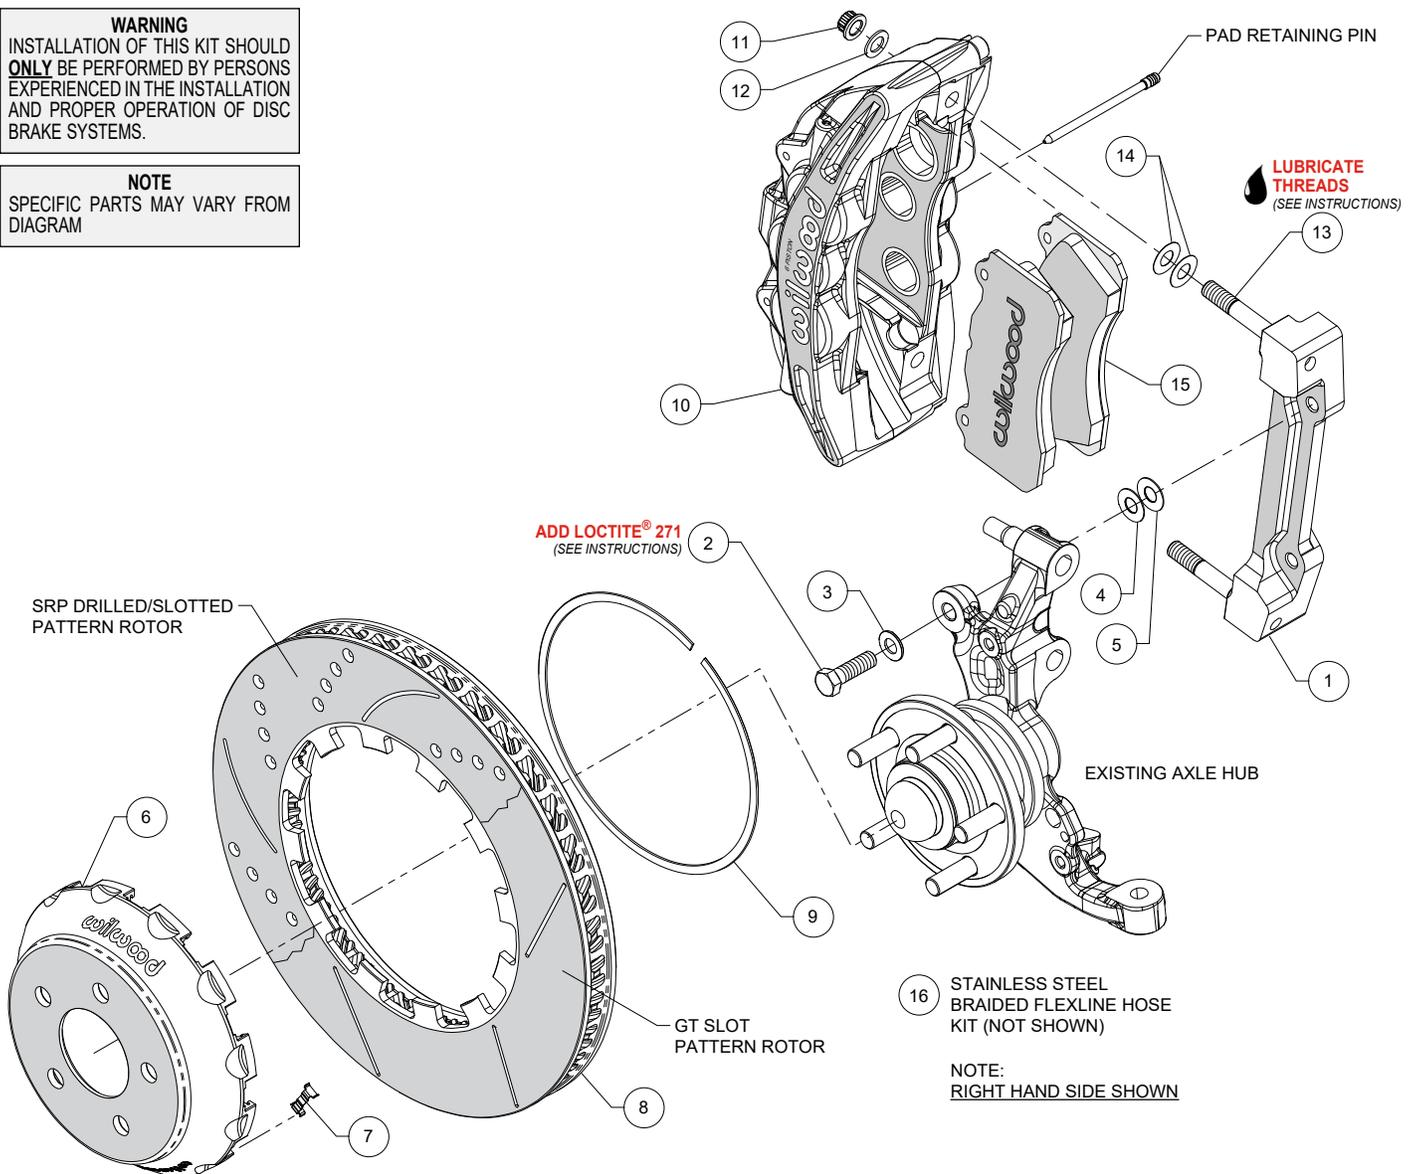

Figure 1. Typical Installation Configuration
NOTE: Numbers in parenthesis refer to the parts list and Figure 1 on the preceding pages.
•The caliper mount bracket (1) should initially be installed with clean, dry threads on the mounting bolts. Orient the bracket, as shown in Figure 1 and Photo 1, and install using bolts (2) and washers (3). Initially place one .033" thick shim (4) on each bolt between the bracket and upright, Figure 1. Temporarily tighten the mounting bolts. **NOTE:** The bracket must fit squarely against the mount bosses on the upright. Inspect for interference from casting irregularities, machining ridges, burrs, etc. Later, after the caliper alignment has been checked, the mount bolts will be secured using red Loctite® 271.
•Insert the dynamic mount wear clips (7) into the slots in the hat (6), Photos 2 and 3. Orient the rotor (8) as shown in Figure 1 and Photo 4, with the flush side of mount lugs facing the hat. Secure the rotor to the hat using the snap ring (9) by simultaneously pushing down on the rotor and installing the ring into the groove in the hat, as shown in Photo 5. Carefully inspect snap ring to ensure complete engagement in the groove.
•**NOTE:** This kit contains distinct right and left hand calipers that must be mounted in a specific direction, as described below. Lubricate the caliper mounting studs (13) with lightweight oil. Initially place two .015" thick shims (14) on each stud between the caliper and the bracket, as shown in Figure 1 and Photo 7. Mount the caliper (10) onto the bracket (1) using lock nuts (11) and washers (12), Figure 1. Temporarily tighten the lock nuts. Ensure that the caliper is mounted so the largest pistons are at the rotor exit end of the caliper, in relation to the direction of the rotor. View the rotor through the top opening of the caliper. The rotor should be centered in the caliper, Photo 8. If not, adjust by adding or subtracting shims (4 and/or 5) between the bracket and the upright. Always use the same amount of shims on each of the two mounting bolts. Once the caliper alignment is correct, remove the bracket mounting bolts (2) one at a time, apply red Loctite® 271 to the threads, and torque to 60 ft-lbs.
•Remove the two pad retaining pins from the caliper (10) by pushing out the pins from the tapered end using a blunt instrument. Insert the brake pads (15) into the caliper from the bottom, Figure 1 and Photo 9. With the friction material facing the rotor, secure the brake